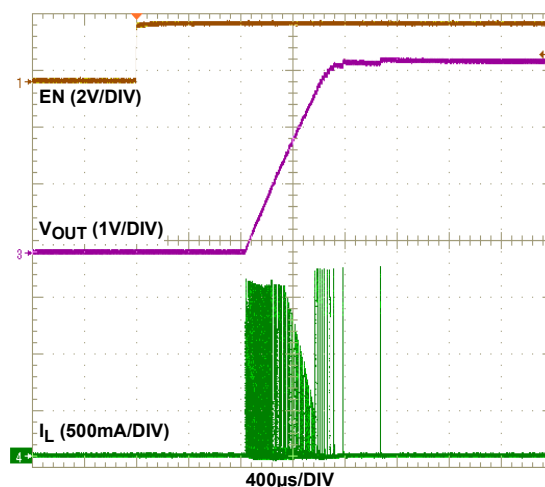

FIGURE 2. SOFT-START ($V_{IN} = 3\text{V}$, $V_{OUT} = 3.3\text{V}$, NO LOAD)
Refer to the following Quick Setup Guide to configure and power up the board for proper operation. During the power-on process, the expected waveforms are shown in Figures 2 and 3.
7. Monitor the output voltage start-up sequence on the scope. The waveforms will look similar to that shown in Figures 2 and 3.